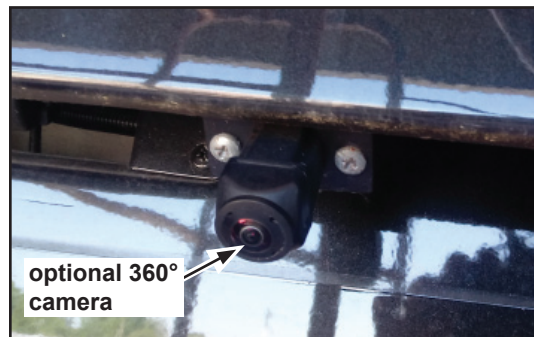

Figure 1
4. Use a ladder to access the optional 360° camera (if equipped), located behind the rear air deflector. Remove the camera from its mounting bracket using a Phillips screwdriver and 3/8" open end wrench. Leave the camera hang from its cord for the duration of the repair. Set aside the fasteners for reinstallation. See Figures 1 and 2.